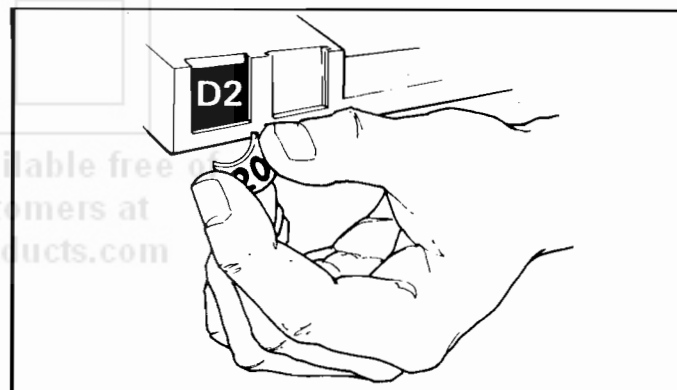

Figure 9. INSTALLING PRICE TABS.
11. **INSTALL PROPER PRICE TABS** into price tab holder for each selection in the main product area. (See figure 9.)